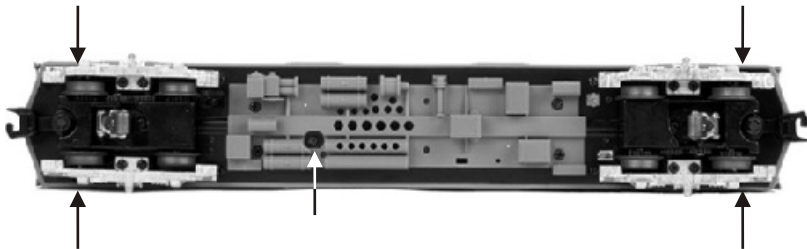

Figure 4. Body Mount Screw Locations.
1. Remove the Phillips screws from the chassis, as seen in Figure 4, then lift the body away from the chassis.